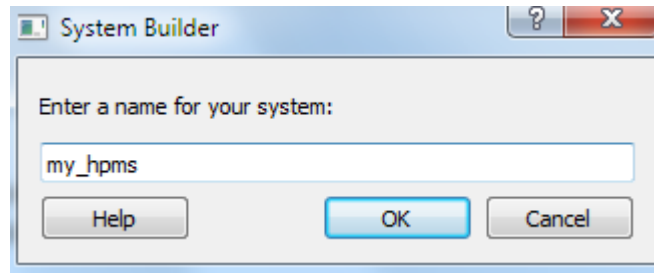

Figure 4 System Builder Name Dialog Box
5. Enter **my_hpms** as the name of the system in the **System Builder** dialog box, as shown in **Figure 4**.